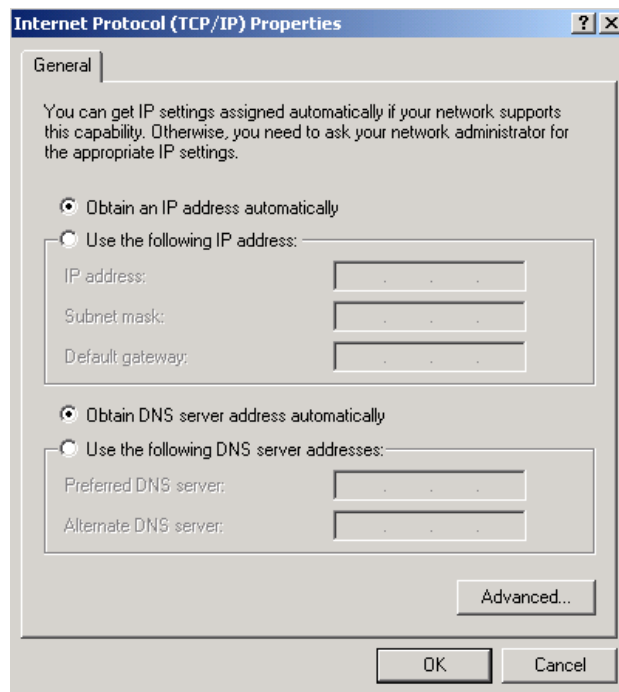

Figure 173: Internet Protocol (TCP/IP) Properties window
RESULT: The Internet Protocol (TCP/IP) Properties window opens, as shown in Figure 173.
6. Unless you have a static IP address configured on the SM, select **Obtain an IP address automatically** for the protocol analyzer laptop computer, as shown in Figure 173.